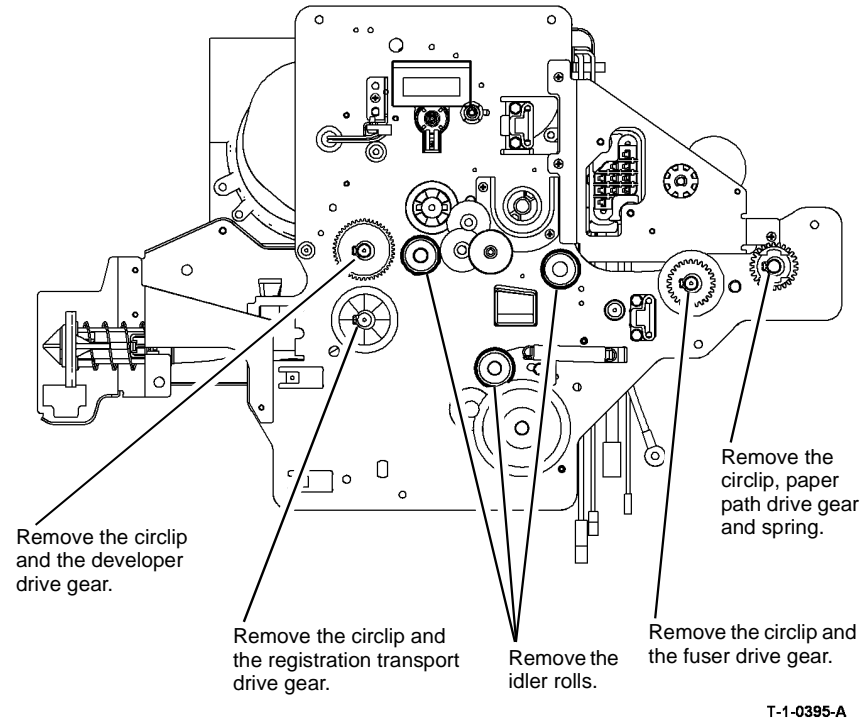

Figure 3 Remove drive gears and idlers
3. Refer to Figure 3, remove the following: